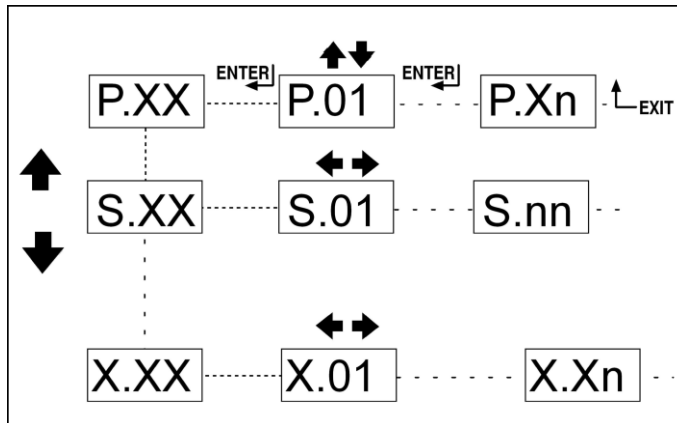

Fig. 2 - Mode navigation
3.3.1 Mode navigation (ref. to fig. 2)